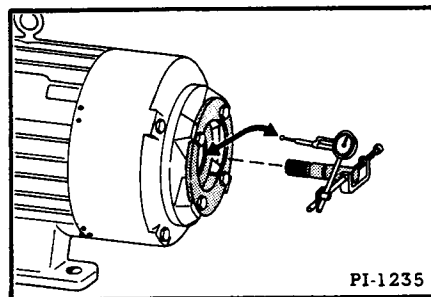

Fig. 160 Attaching Dial Indicator to Shaft
12. Attach a dial indicator to the shaft so the follower runs on the inner circumference of the pump mounting plate (Figure 160).